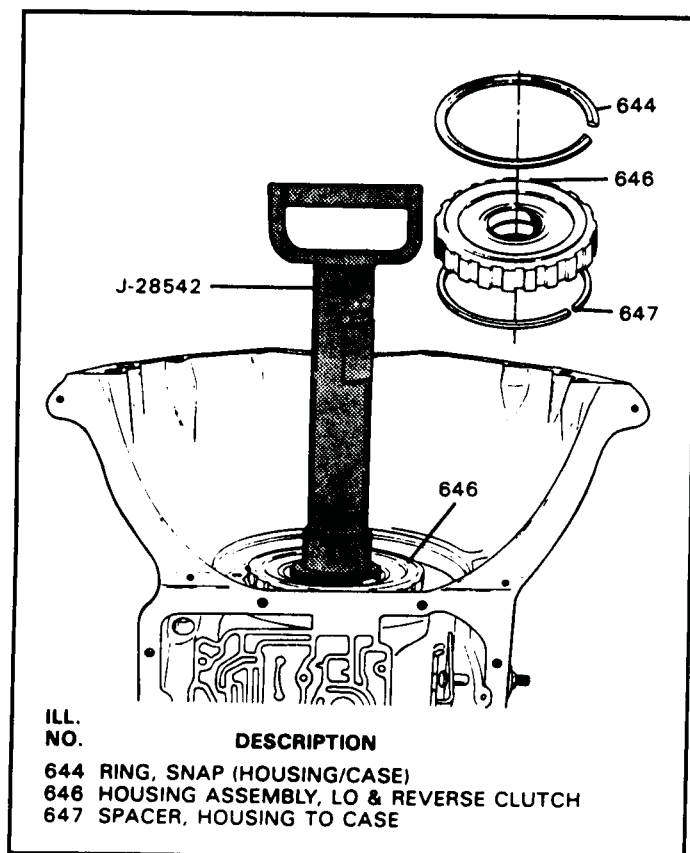
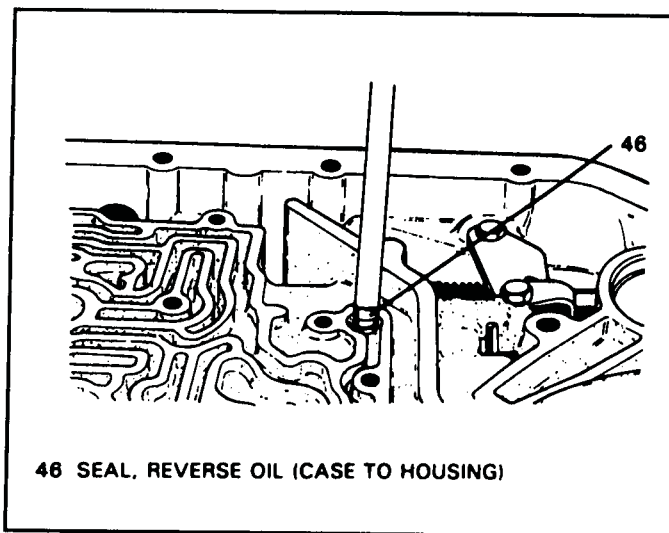

Figure 76
Figure 77
33. Install the complete Lo/Reverse clutch housing into the case using installation tool J-28542, as shown in Figure 76.
36. Install the snap ring (644) into the groove in the case with the bevel side facing up, and opening opposite the parking lock actuator rod.
37. Install the case to housing reverse oil seal and seat the seal against the housing with the proper diameter steel rod (See Figure 77).